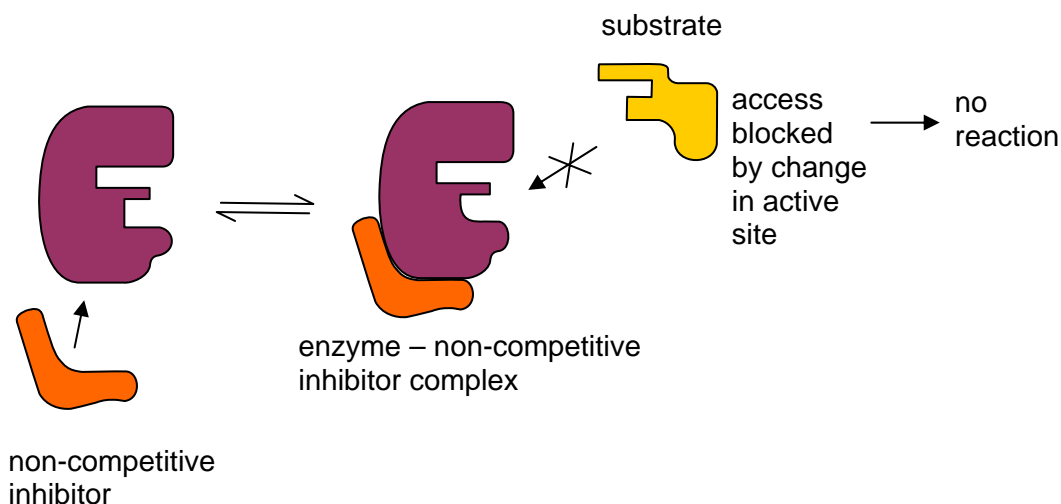

Figure 1.23 – scheme for non-competitive inhibition
- the active site to change shape so that the substrate cannot bind (Figure 1.23).